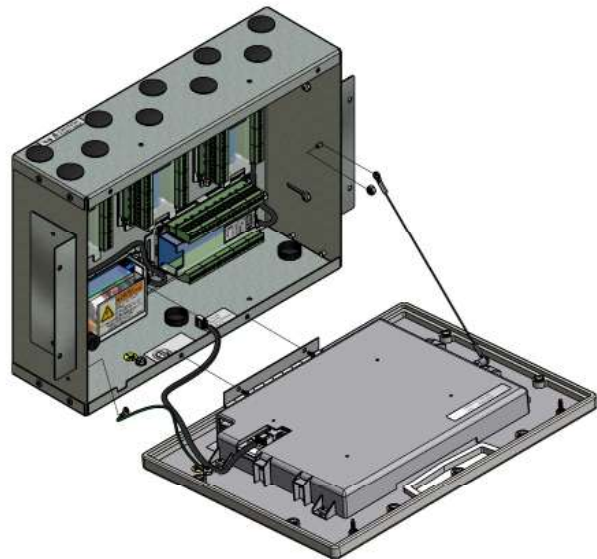

Figure 32: Attach Front Panel and Lanyard
4. Attach front panel to alarm panel rough-in box using screws removed in step 2 (Figure 32).
5. Attach lanyard to alarm panel rough-in box using screws removed in step 3 (Figure 32).